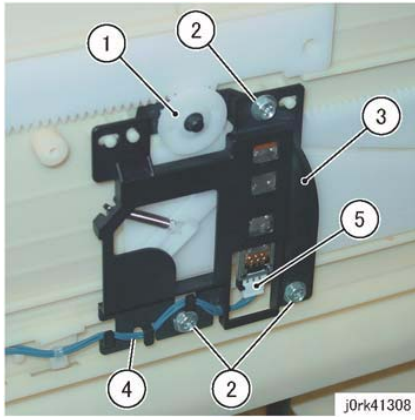

Figure 3 MSI Paper Size Sensor Removal
4. Remove the MSI Paper Size Sensor. (Figure 3)